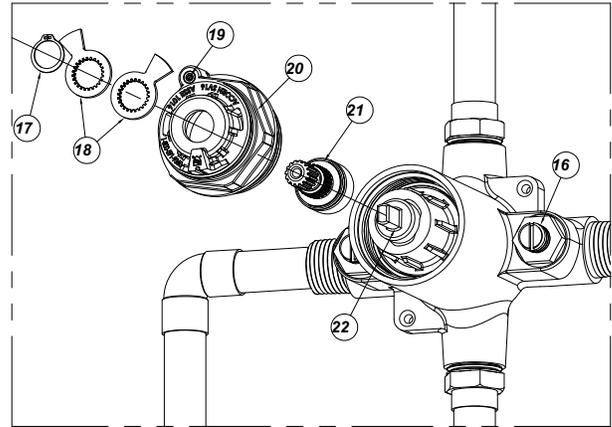

FIGURE 8
Excessive overheating of valve during soldering may damage the cartridge and checkstops. Do not heat valve any higher than needed to flow solder. If a higher temperature method is being used, **all internal components must be removed**. See figures 8 for cartridge removal and 9 and 10 for temperature limit setting.
Excessive overheating of valve during soldering may damage the cartridge and checkstops. Do not heat valve any higher than needed to flow solder. If a higher temperature method is being used **all internal components must be removed**. See figures 8 for cartridge removal and 10 for temperature limit setting.
1. Bonnet Removal: Figure 8.
- a. Inspect valve cartridge **22** ensuring that 'D' shaped grooves have cartridge screen O-rings **23** in them and that stainless steel screens **24** are seated. See **Figure 8**.